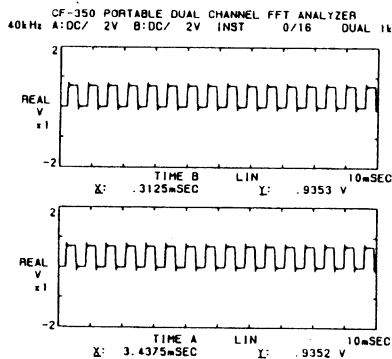

Fig. 2-1
2. Input the test signal (as described above). The CRT will appear as shown below in Fig. 2-1.
1. The waveform should appear as shown in Fig. 2-1.